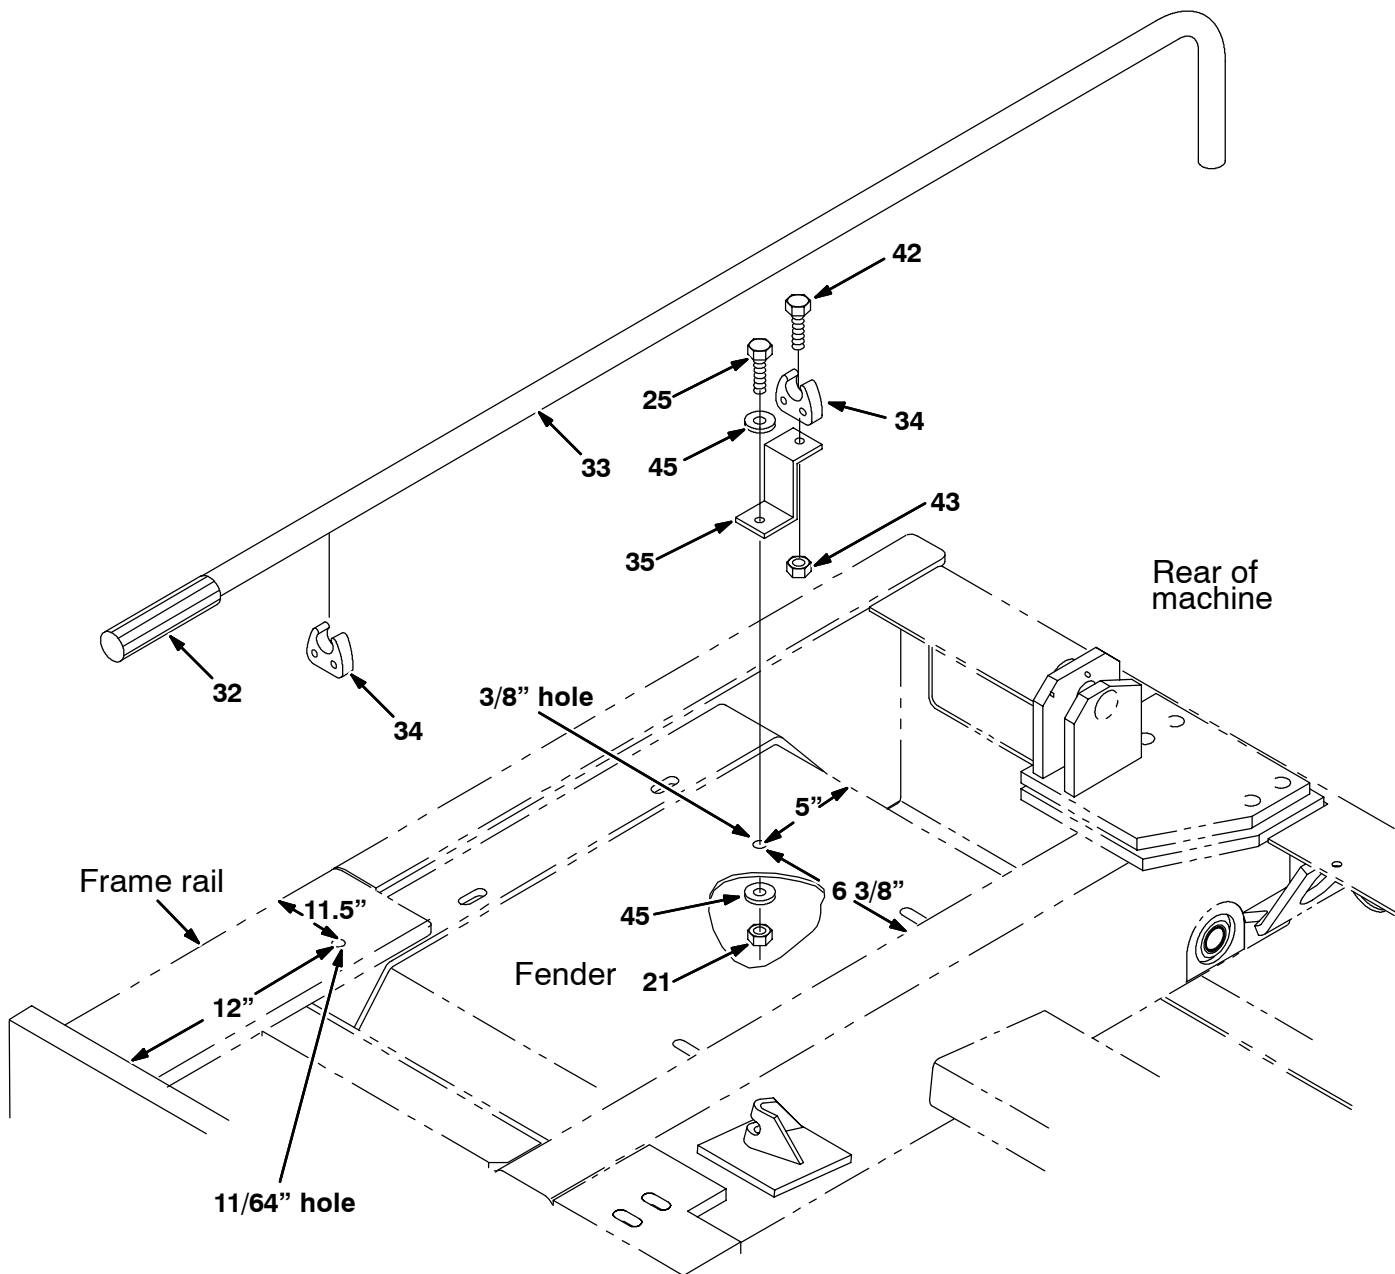

FIG. 4 - Tool Mount Holes
(Refer to FIG. 4 and 5)
1. Drill a 3/8" hole in the right rear fender. Refer to the dimensions provided in Fig. 4.
2. Drill a 11/64" hole in the right rear frame rail. Refer to the dimensions provided in Fig. 4.
4. Use a hex screw (25), two flat washers (45), and a lock nut (21) to mount the clip mount bracket (35) to the hole in the fender. (Refer to Fig. 4)
5. Use a pan screw (42) and lock nut (43) to mount a finger grip clip (34) to the clip mount bracket (35) and the hole in the frame rail. (Refer to Fig. 4)
6. Install the conveyor door tool (33) and grip (32) into the clips (34). (Refer to Fig. 4)